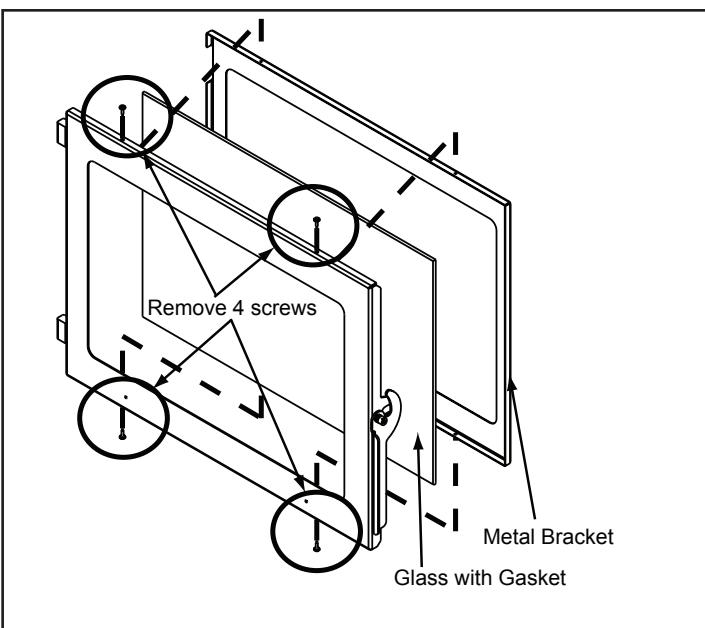

Figure 28.1
- b. Using a Phillips head screw driver, remove 4 screws, 2 on the top and 2 on the bottom. Remove metal bracket and then remove the glass. **Figure 28.1.**